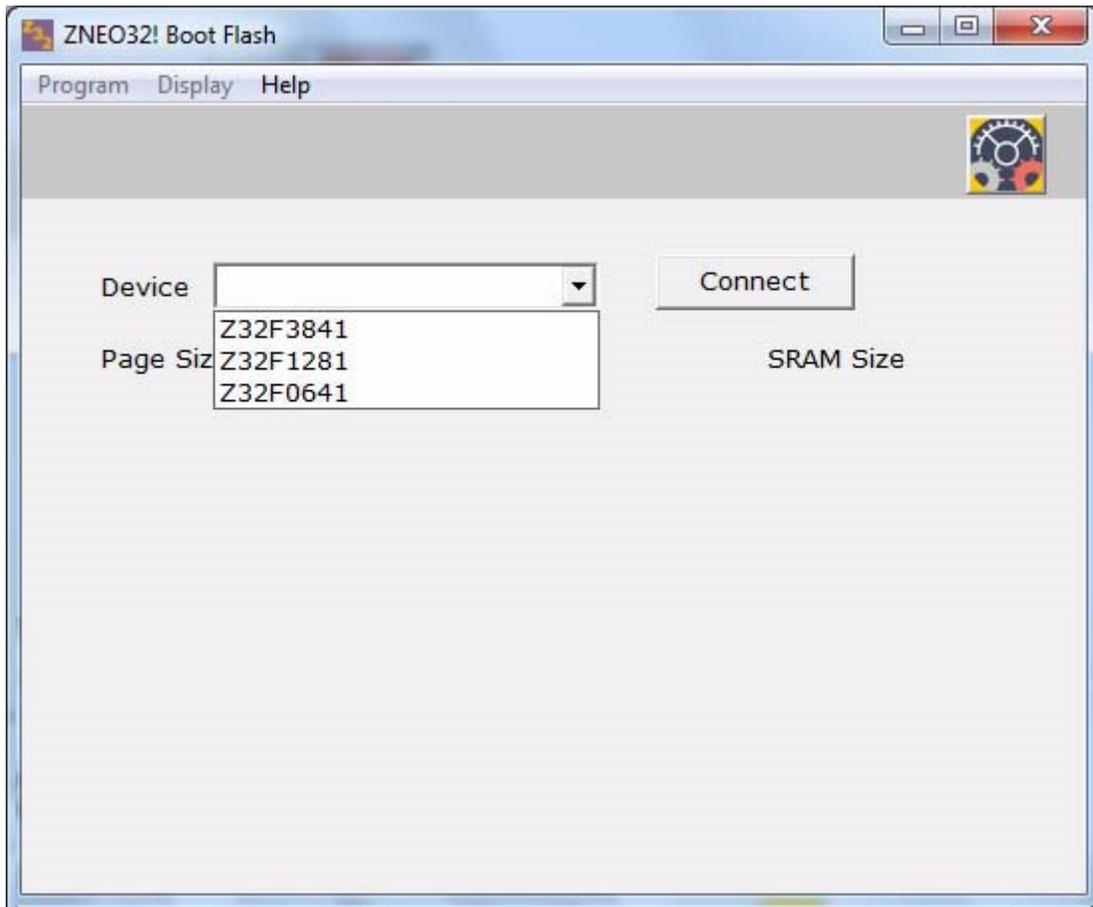

Figure 2. Selecting the Device
3. From the drop down box, select the device that is connected, as shown in Figures 2 and 3.